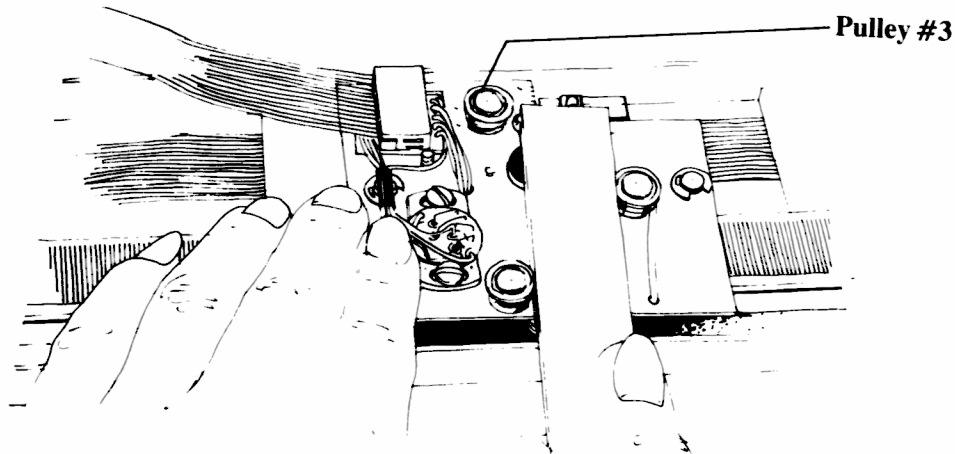

Figure 6
8. Move the Arm backwards until the Arm Stop meets Pulley #3. Gently move the end of the Traverse Arm that is in the pulleys to the right to allow the Arm Stop to get past Pulley #3. (See Figure 6.)